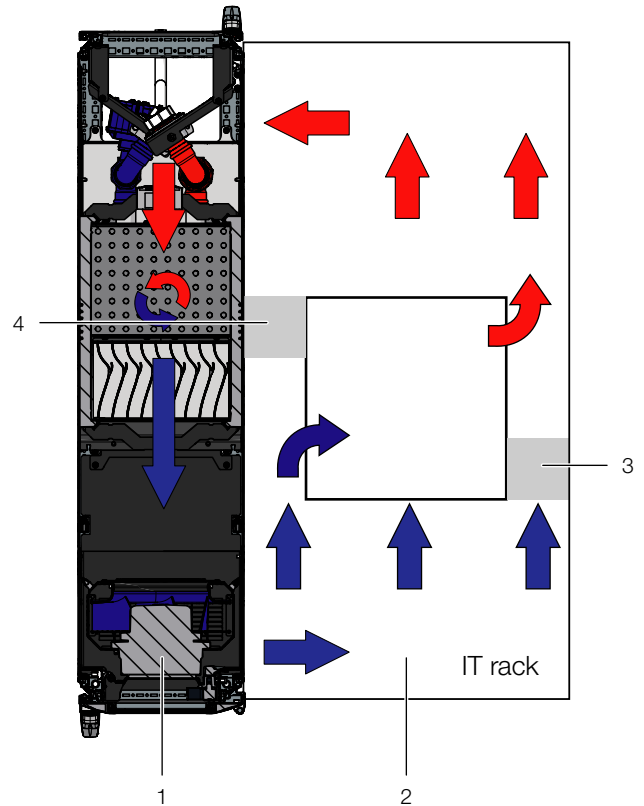

Fig. 29: Placement of foam strips for devices with sideways air throughput (top view) – LCP Rack
- If several devices which require sideways air throughput are included, cut out several pieces of the foam strip, as is appropriate, so that, ultimately, there is a cut-out in the foam to the left or right at the height of each such device in the server rack. Ensure that there are no gaps on the hot air side of the device (fig. 29, item 3).
- Attach the foam strips to the cold air side of the devices set back towards the rear (fig. 29, item 4), making sure that all fans built into the devices can draw air and that none of them are blocked.
The foam strips can be attached between the front and rear supports of the server rack along the entire depth of the devices with sideways air throughput (fig. 29).